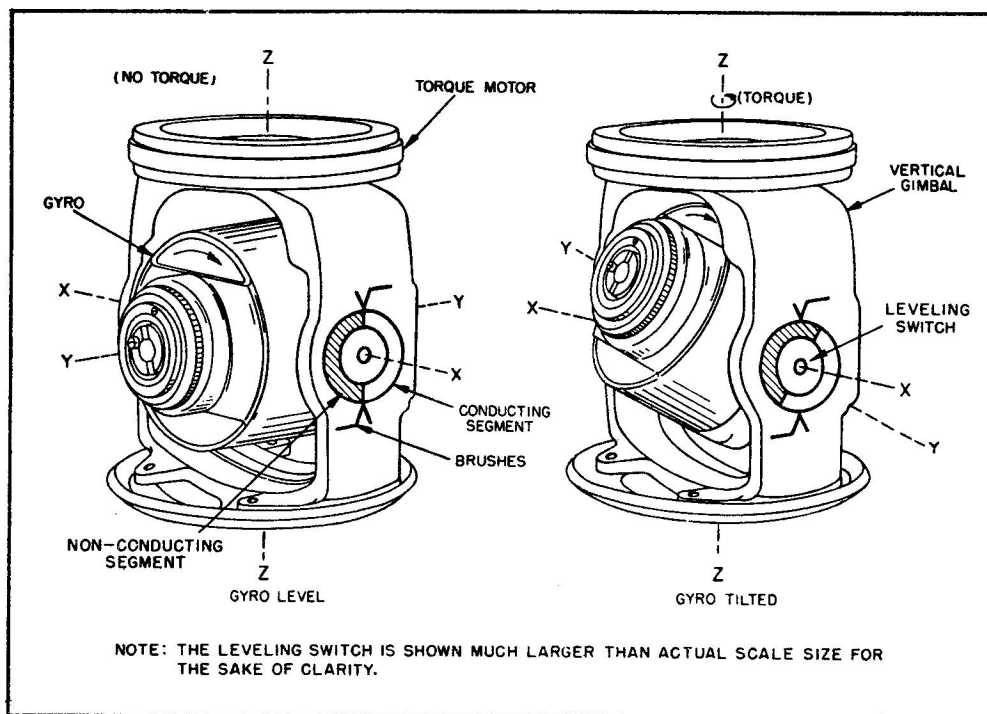

Figure 2-1. Schematic of the Leveling System
2-8. THE GYROSCOPE. The gyro is a 3-phase induction motor enclosed in a housing. The rotor spins about a stator which is energized by a 26-volt, 400-cycle, 3-phase alternating current from the amplifier assembly. The rotor spins about the lateral axis (Y), in the direction of the arrow, on bearings in the gyro housing. (See figure 2-1.) The housing serves as the inner ring or horizontal gimbal. It is free to rotate about the longitudinal axis (X) on bearings in the vertical or outer gimbal ring. The vertical gimbal ring turns about a vertical axis (Z) on bearings in the top and bottom brackets of the indicator case. Thus the gyro is universally mounted, having three axes of freedom. Such a spinning gyro furnishes the rigidity and precession for the Gyrosyn Compass.
2-10. LEVELING SYSTEM. Bearing friction, unbalance, and drift because of the earth's rotation, may cause the rotor to tilt from its vertical plane of rotation. (See figure 2-1.) This tilt is overcome by a leveling system consisting of a torque motor, a leveling switch, and a low voltage tap on one of the windings of the gyro stator. The torque motor consists of a squirrel cage, fixed to the bracket assembly of the indicator case, and a stator attached to the vertical gimbal ring. The stator has two interwoven windings; one continuously energized by the 26-volt, 400-cycle supply from the amplifier, the other, a control winding energized by 8 volts through the leveling switch from the tap on the gyro stator winding. (See schematic, figure 5-1.) The leveling switch consists of a